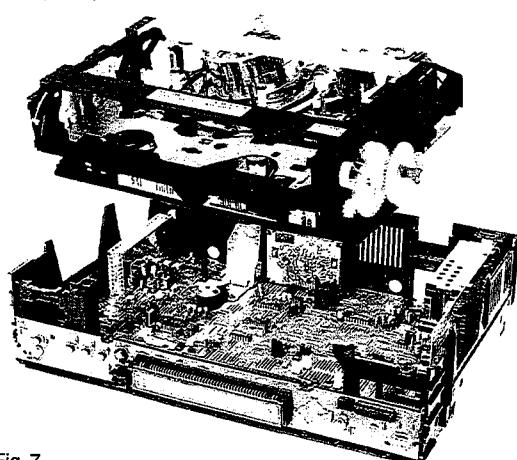

Fig. 7
- The drive can now be released from the motherboard (Fig. 7).